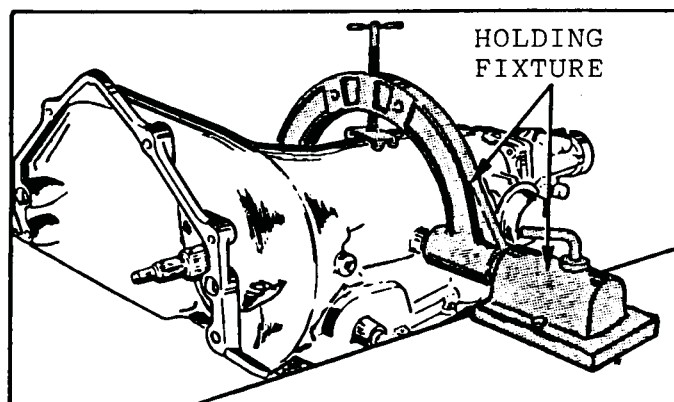

Figure 32
3. Install holding fixture on to transmission case (Figure 32).
4. Install transmission into base on work bench (Figure 32).